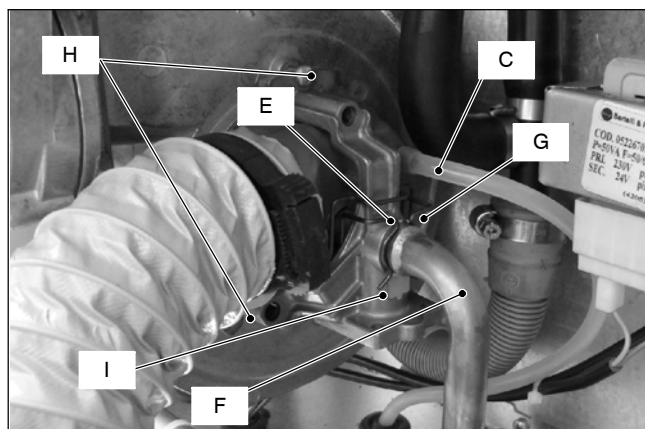

Fig. 17.2
- 3 Disconnect the rubber pipe *C* (Fig. 17.2).
- 5 Remove the fixing fork *E* and remove the gas pipe *F* (Fig. 17.2).